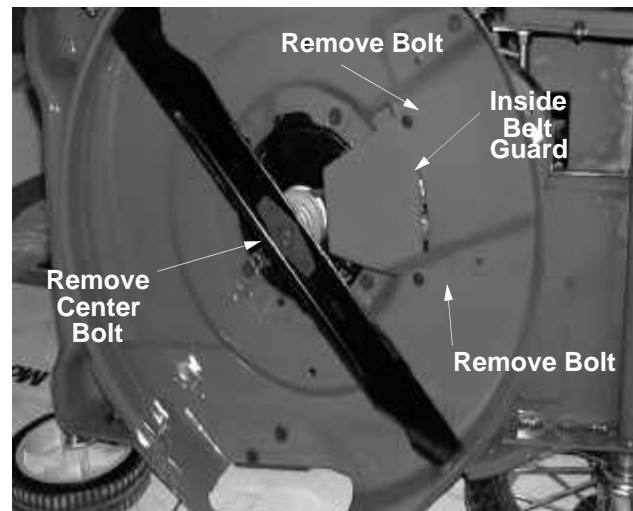

Figure 17
4. Remove the center bolt which secures the blade to the crankshaft. See Figure 17.
6. Using a 3/8" wrench, remove the two self-tapping screws which hold the inside belt cover, and remove the cover. See Figure 17.